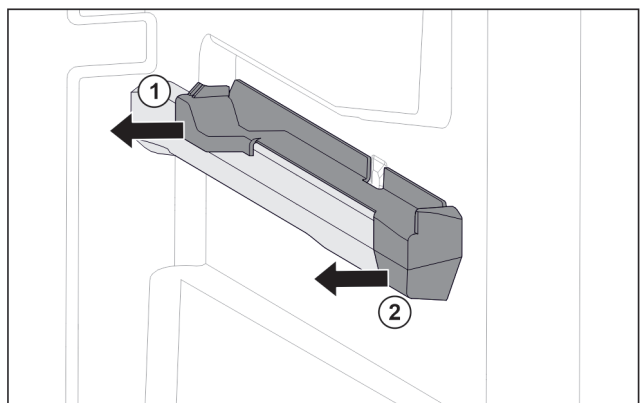

Fig. 219 Attachment on the right moulded rib
- ▶ Pull off attachment at the back sideways. *Fig. 219 (1)*
- ▶ Pull off attachment at the front sideways. *Fig. 219 (2)*